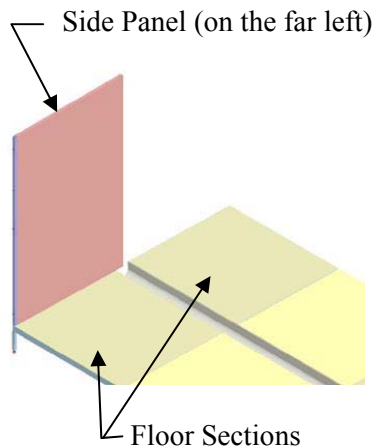
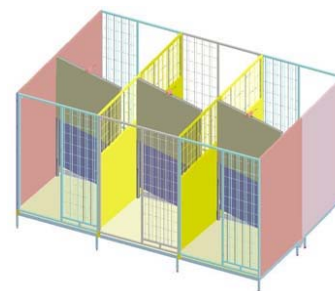

Figure 16
Figure 21
1. Set the first Side Panel (with King Post attached) on the left side of the first floor. Be sure the bottom of the panel slopes from the front to back of the Kennel. Have a helper hold it in place (**Figure 16**).
6. Begin assembling the second section of kennels, starting from the left side with a King Post and a Side Panel as shown in the (**Figure 21**), just like the first row, now follow (**Figures 16 thru 19**) again to complete the second section.